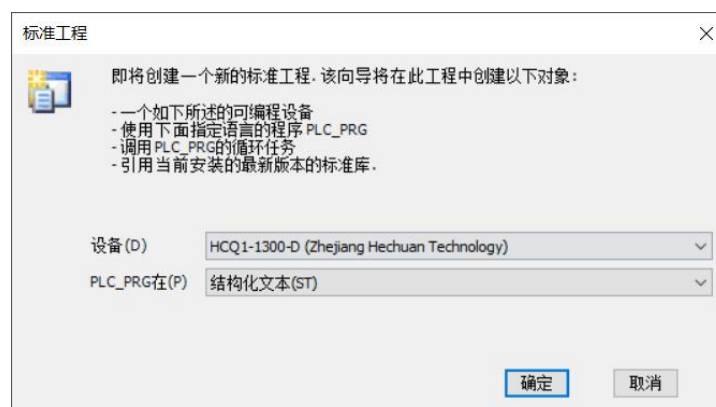

Figure 13-3 Project description
3. Select [HCQI-1300-D], and then select [Structured Text (ST)] in PLC_PRG (P), and click [OK], as shown in Figure 13-3.